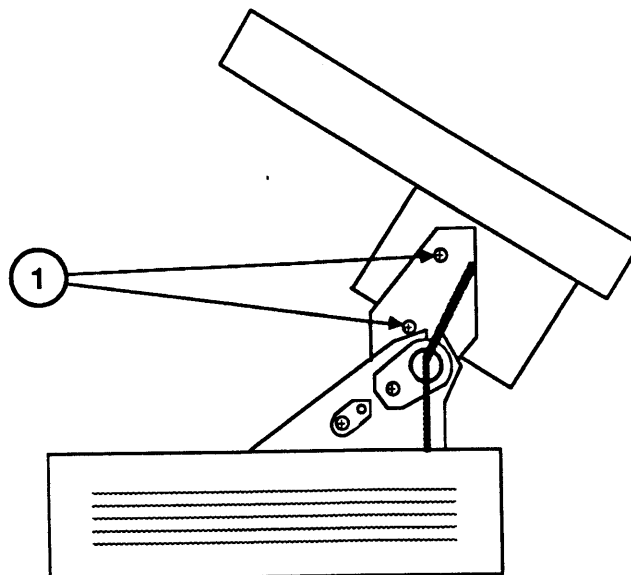

FIGURE 2-56
18. While one person supports the upper main body of the printer, the other removes the four to six hinge-plate screws (two or three on each side) that secure the upper main body to the lower main body (Figure 2-56, #1).